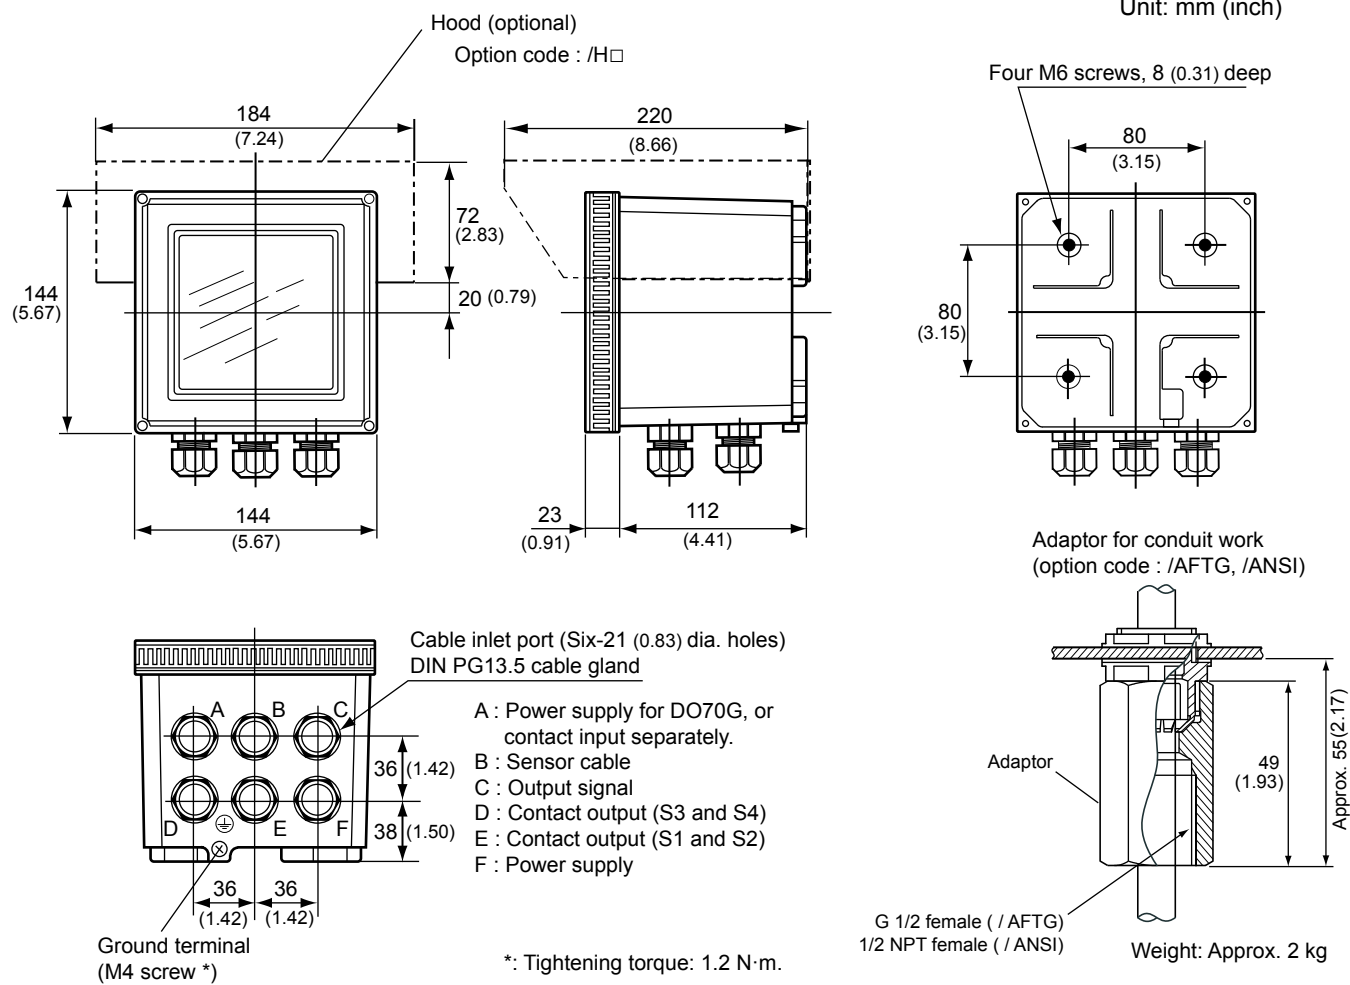

Figure 3.1 Housing dimensions and layout of glands
- Access is possible to the cable glands (see figure 3.1)